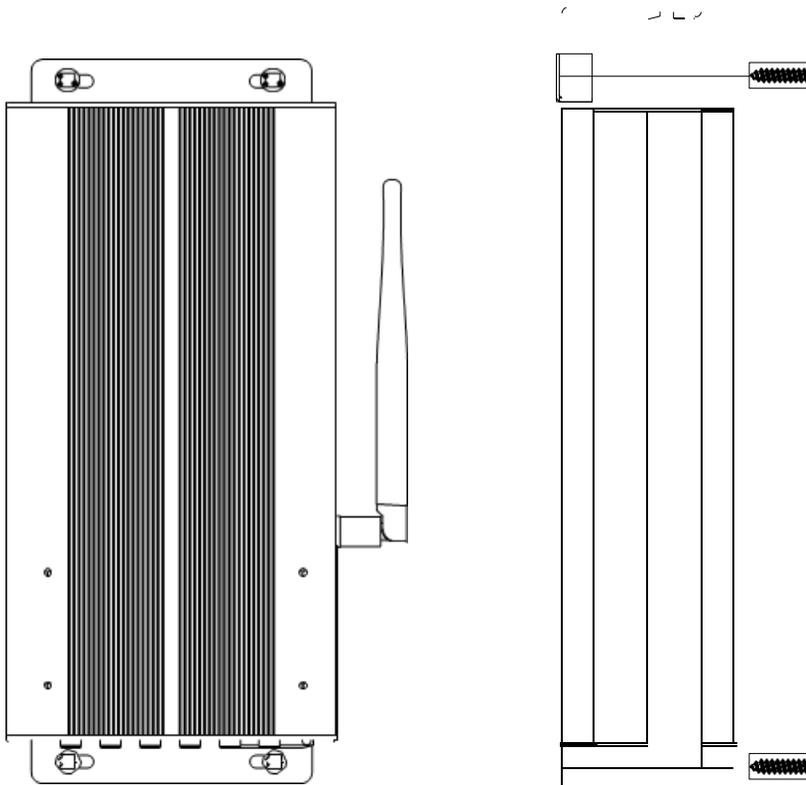

Figure 3 - Listo Controller Mounting Orientation
1. The Listo EMS Controller comes with four mounting holes located on the faceplate and rear panel. Locations are shown in Figure 3 below.